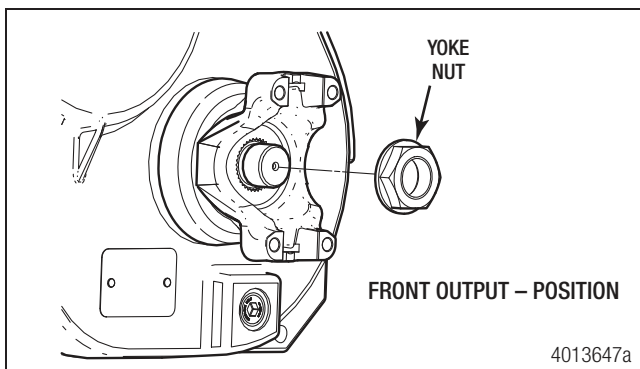

Figure 7.54
4. Apply silastic to the yoke nut. Install the yoke nut and tighten to 500-700 lb-ft (678-949 N·m). Figure 7.54.